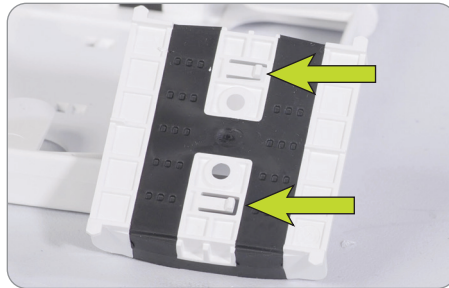

Figure 38
1. To add a splice module to Apex splice tray, simply align the latch tabs. (Figure 38)